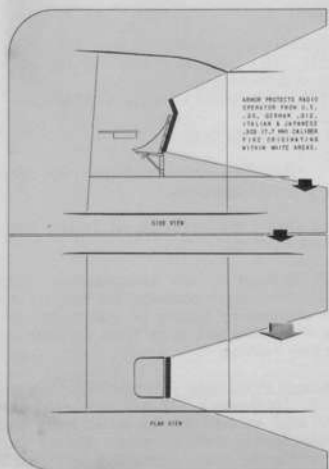

Figure 59 -
h. Armor Protection. - Armor sufficient to withstand U.S. .30, German .312, and Japanese and Italian .303 (7.7 mm) caliber fire by direct right angle hit is provided for the radio operator. Enemy fire originating within the areas illustrated in figure 59 will not reach the pilot.